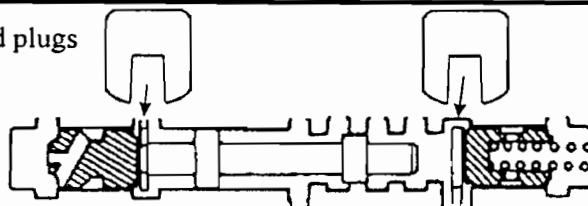

FIGURE 2.
**CORRECTION:** When installing both stopper plates in the upper valve body, be certain that they go in with the horseshoe end down. See **figure 2**. Next, check to make sure that the shift control valve is free to travel past the stopper plates in both directions, and that the end plugs are not straddled by the stopper plates.